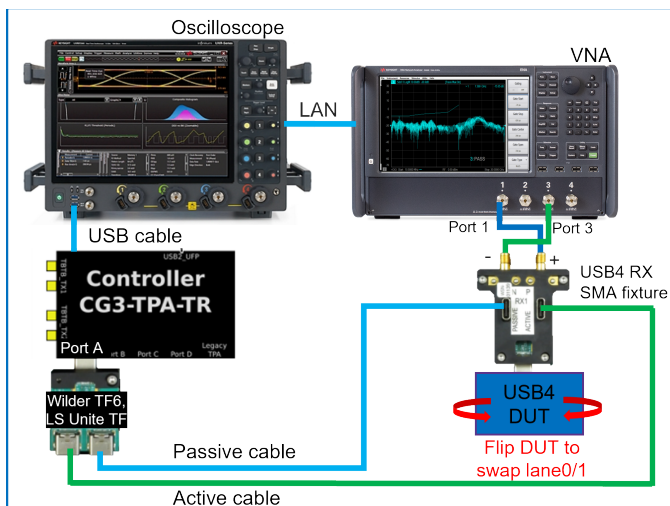

Figure 123 Tx Return loss test setup with Rx SMA test fixture
- 1 For the physical connections between the DUT & the Oscilloscope, see the connection diagrams in Figure 123 and Figure 124.